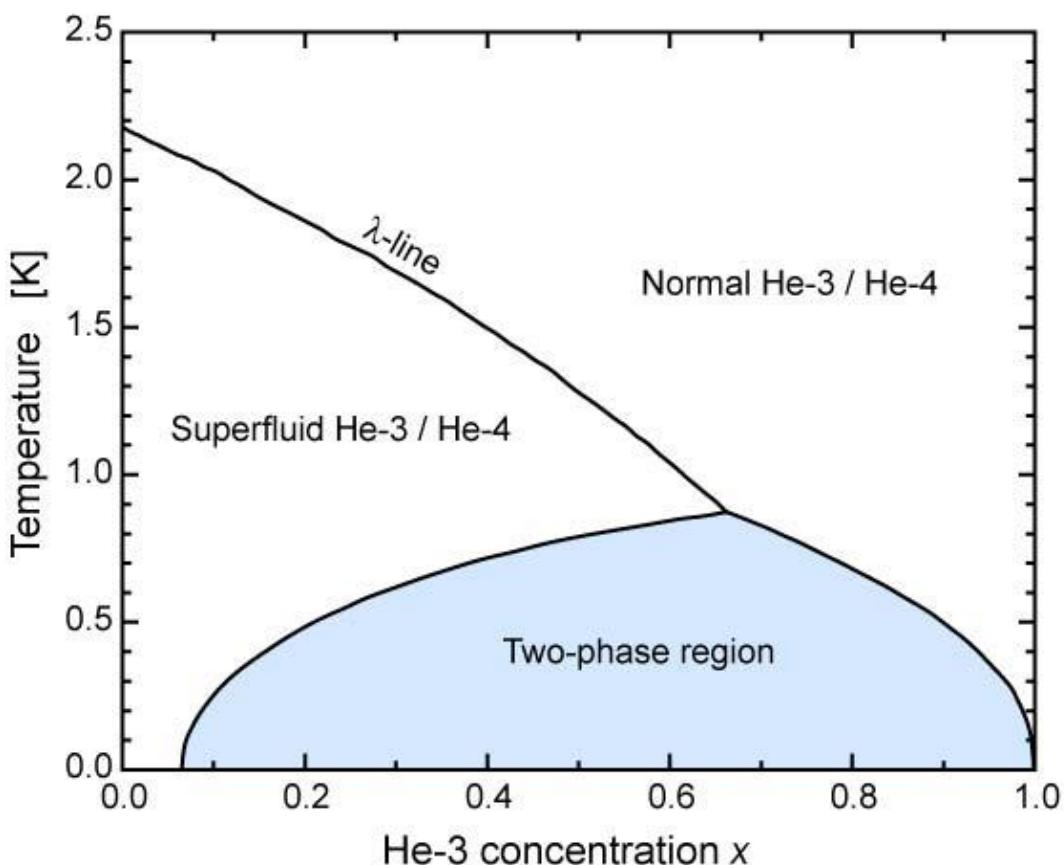
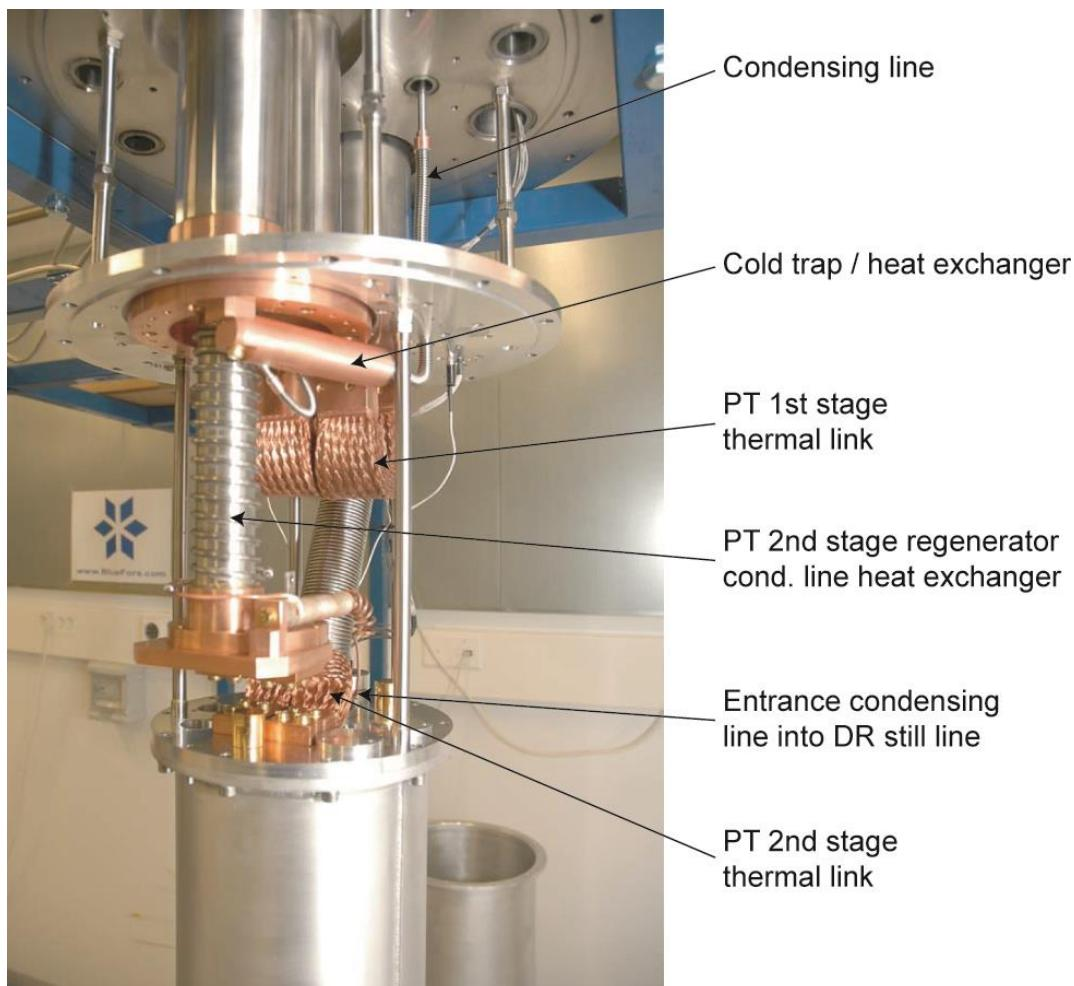
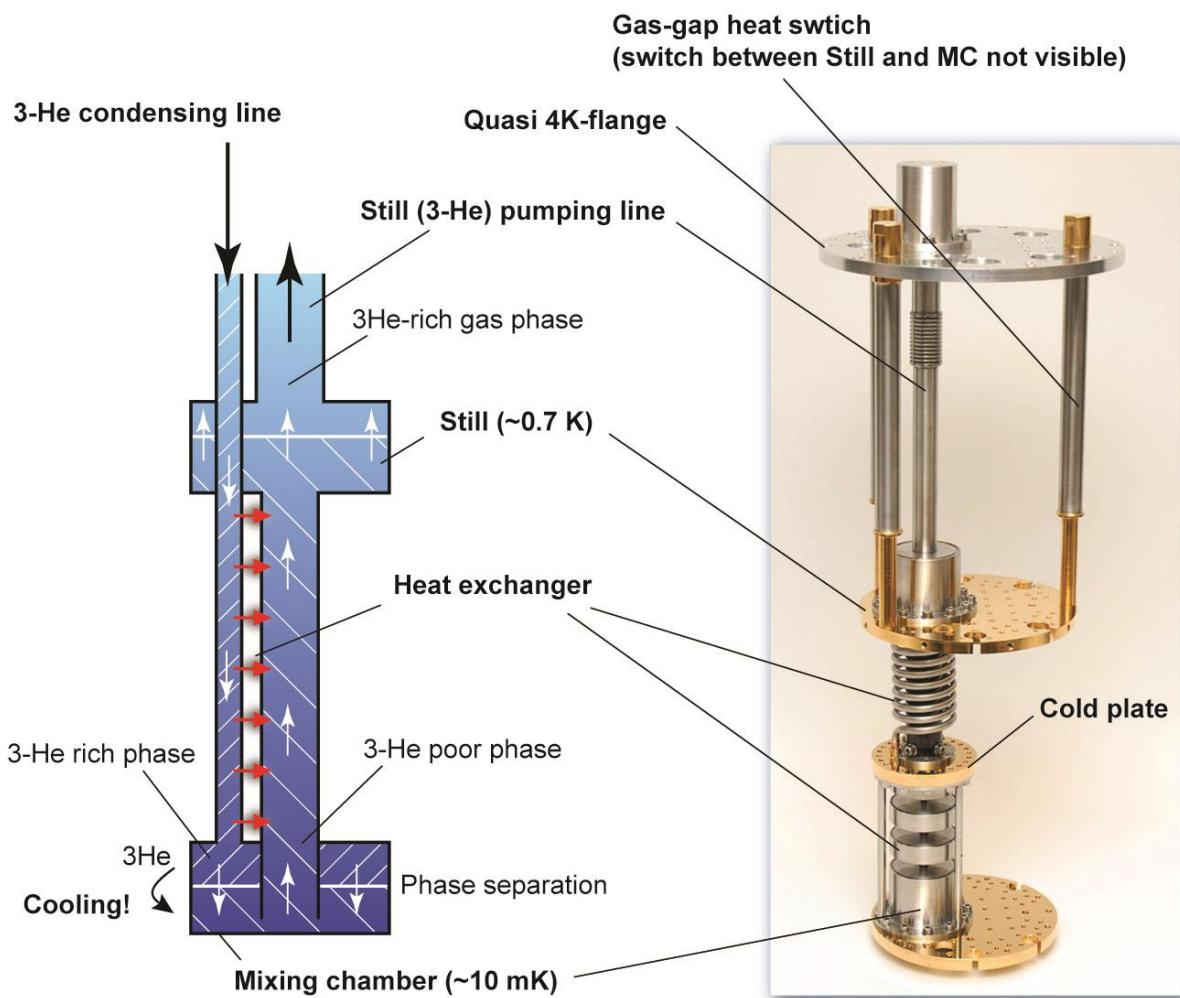

Figure 1. Phase diagram of He-3/He-4.
Figure 2. Details of 50K flanges and condensing line (model BF-SD250).
Figure 3. Dilution refrigerator principal parts.
The cooling cycle is possible due to special and fortunate properties of 3-He/4-He mixtures at low temperatures. At saturated vapor pressure pure 4-He undergoes a phase transition at 2.17 K from a normal fluid into a superfluid (resulting in completely different properties of the two isotopes below this transition temperature). Diluting the 4-He with 3-He results in a decreasing superfluid transition temperature, see Figure 1. At temperatures below 0.8 K (depending on concentration) the 3-He/4-He mixture will separate into two phases: a 3-He rich phase (concentrated phase) and a 3-He poor phase (dilute phase). Approaching absolute zero temperature, the concentrated phase becomes pure 3-He while in the dilute 4-He rich phase there
A traditional (not cryogen-free) DR is situated inside a separate vacuum can which is surrounded by liquid helium (4.2 K). Initially the DR is pre-cooled to 4.2 K by admitting exchange gas into this inner vacuum can. In addition to the pre-cool from room temperature to 4.2K, the liquid helium bath serves as a low temperature radiation shield and it pre-cools the incoming 3-He gas which is circulated in the DR. In this system the Cryomech Inc. Pulse Tube (PT) cooler delivers low enough temperatures to start the DR cycle. The flanges of the 50K and quasi-4K radiation shield are connected to the two stages of the pulse tube (see Figure 2). This is done through flexible copper braids to damp any possible vibration caused by the PT. The whole radiation shield assembly is in one common vacuum space to thermally isolate
it from its surroundings. The incoming 3-He gas is pre-cooled to <4.2 K by different heat exchangers. First there is a cold trap at approximately 50K (see Figure 2), which takes out any contamination of circulation by freezing it but also serves as a heat exchanger. After that the incoming gas is thermalized at the regenerator tube and the 2nd stage of the PT (see Figure 2).
Figure 3 shows the principle parts (and their typical operation temperature) of our DR: quasi 4K flange, still, heat exchangers, mixing chamber and heat switches. The heat switches are needed because our system has only one common vacuum can which makes the use of exchange gas not feasible. Hence they are used for the initial pre-cool of the DR with the PT from room temperature to low enough starting temperature (approximately 4.2 K). Heat switches (HS) are installed between the quasi 4K-
After the DR is pre-cooled to $<4.2\text{ K}$, the 3-He/4-He mixture has to be condensed into the system. With a compressor the pressure of the helium mixture is raised to about 2 bar. The heat exchangers in the incoming condensing line pre-cool the pressurized mixture to low enough temperature for it to (partly) condense after the main flow impedance of the system (because of the Joule-Thomson effect). In our system the condensing line enters the still pumping line just above the quasi 4K flange (see Figure 2). The flow impedance is located inside the top part of the still. After all mixture is condensed it makes up enough liquid to fill the mixing chamber, heat exchangers and part of the still. The DR is now started by pumping the still. The helium pumped away from the still is returned into the system through the condensing line. Pumping the still will result in evaporative cooling, dropping its temperature to $<0.8\text{ K}$. Hence phase separation of the mixture will occur (see Figure 1). Because of gravity, the heavier 4-He rich (dilute) phase will start to collect on the bottom of the mixing chamber. Eventually the dilute and concentrated phase will settle as shown in Figure 3.